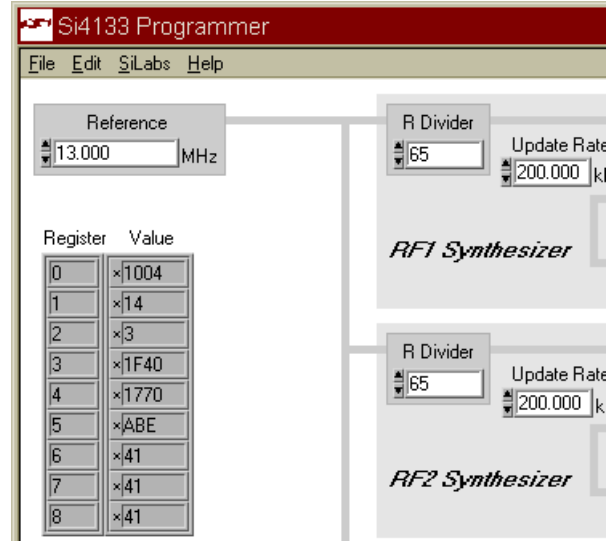

**Figure 7. VCO Tuning**
*Show VCO Tuning* enables graphical, meter-type displays of the self-tuning results of each VCO. The VCO tuning meters are useful when selecting the values for external inductances or monitoring lock behavior. When the needle is at the extreme left of the display, the VCO is operating at the lower end of its frequency range. Similarly, when the needle is at the extreme right of the display, the VCO is operating at the upper end of its frequency range. (See Figure 7.)